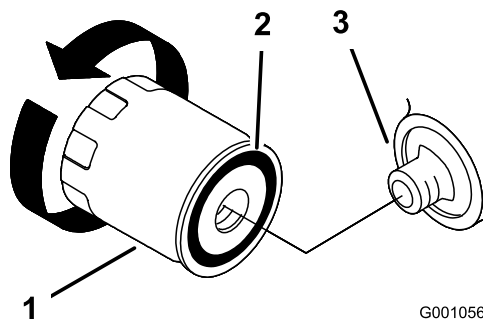

Figure 49
- Remove the old filter and wipe the filter adapter gasket surface (Figure 49).
- Apply a thin coat of new oil to the rubber gasket on the replacement filter (Figure 49).
- Install the replacement oil filter to the filter adapter, turn the oil filter clockwise until the rubber gasket contacts the filter adapter, then tighten the filter an additional 2/3 to 1 turn (Figure 49).